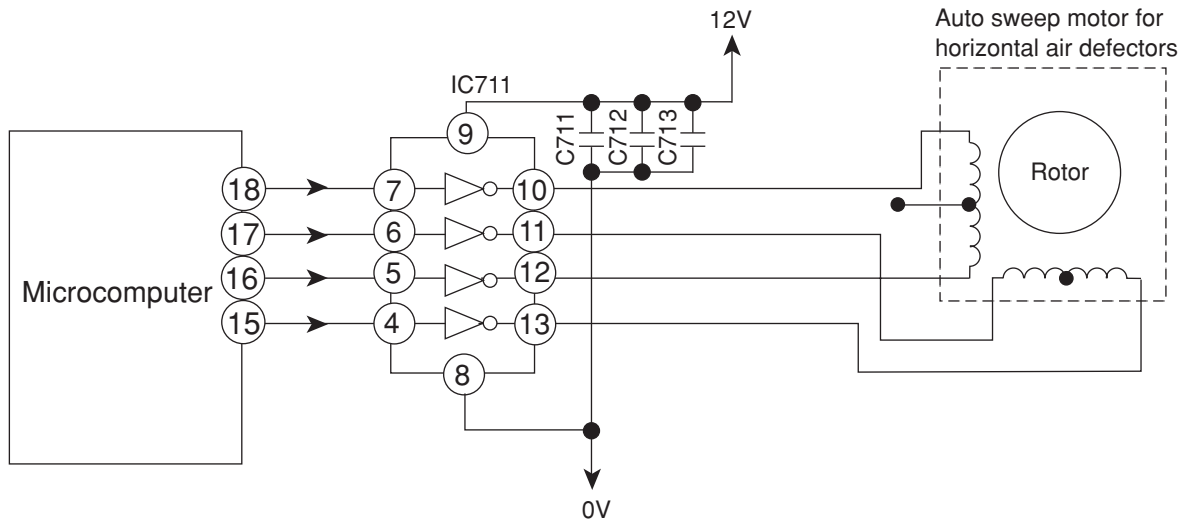
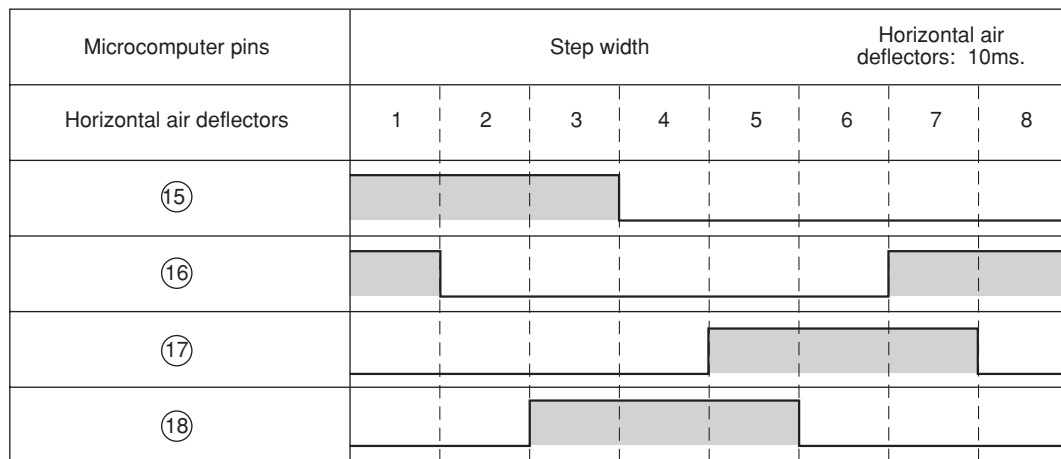

Fig.4-1
Fig.4-2 Microcomputer Output Signals
- Fig. 4-1 shows the Auto sweep motor drive circuit; the signals shown in Fig.4-2 are output from pins ⑮ – ⑱ of microcomputer.
- As the microcomputer's outputs change as shown in Fig.4-2, the core of the auto sweep motor is excited to turn the rotor. Table 4-1 shows the rotation angle of horizontal air defectors.